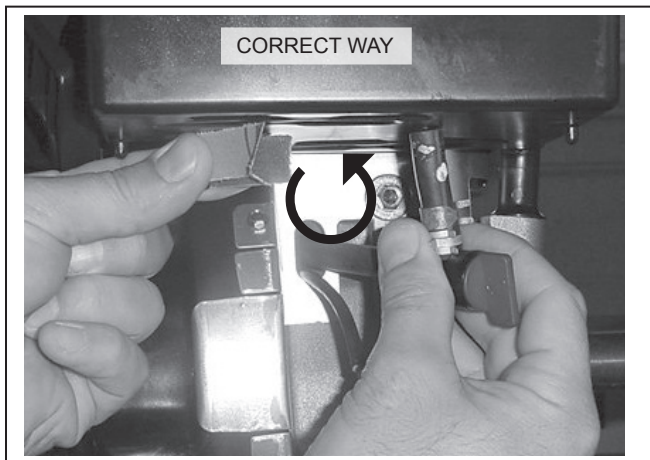
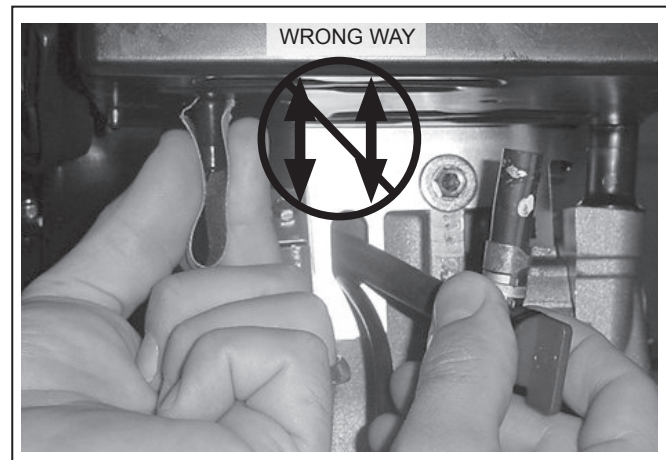

Figure 6
Figure 7
- 180-220 grit emery cloth approximately 3/4" (19mm) wide (replace after sanding every (10) tanks)
3. Push the line to the side to prevent contamination as shown in (fig. 6).
4. Next use a small piece of 180-220 grit emery cloth to slightly ROUGH up the fuel tank spud, as shown in (fig. 6) - one revolution is sufficient. **DO NOT** perform this in a vertical motion (fig. 7).